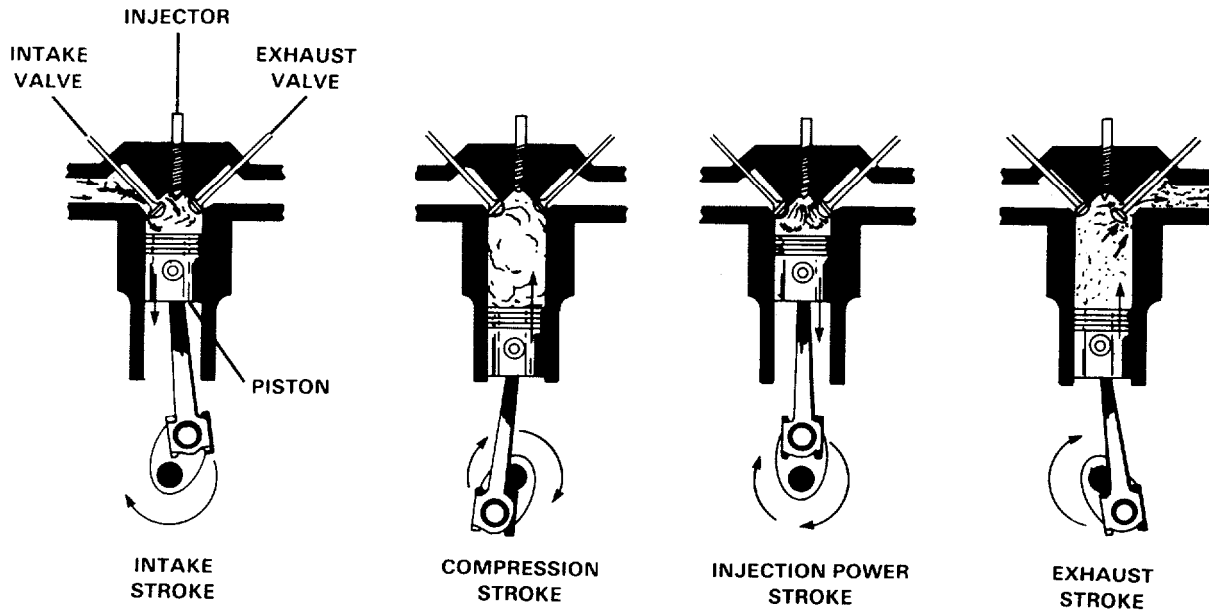

FIGURE 1-2. Diesel Engine.
a. Diesel Engine Cycles. The diesel engine four stroke combustion cycle consists of four piston strokes. The four strokes happen in this order: intake stroke, compression stroke, power stroke, and exhaust stroke (FIGURE 1-2). In order for the four strokes to function properly, valves and injectors must act in direct relation to each of the four strokes of the piston. The intake valves, exhaust valves, and injectors are camshaft actuated, linked by tappets or cam followers, push rods, rocker levers, and valve crossheads. The camshaft is driven by the crankshaft gear, and that means rotation of the crankshaft drives the camshaft, which then controls the opening and closing sequence of the valves and injection timing (fuel delivery).